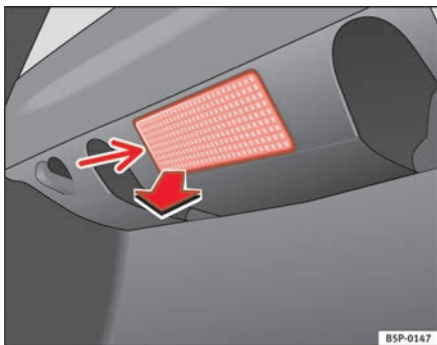

Fig. 170 Luggage compartment light
- Remove the bulb by pressing on the inside edge of this -arrow- using the flat side of a screwdriver ⇒ fig. 170.